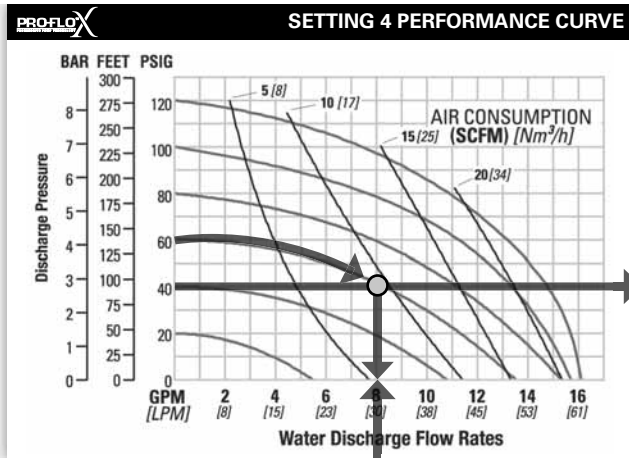

Figure 1
FIGURE 1 The air valve directs pressurized air to the back side of diaphragm A. The compressed air is applied directly to the liquid column separated by elastomeric diaphragms. The diaphragm acts as a separation membrane between the compressed air and liquid, balancing the load and removing mechanical stress from the diaphragm. The compressed air moves the diaphragm away from the center of the pump. The opposite diaphragm is pulled in by the shaft connected to the pressurized diaphragm. Diaphragm B is on its suction stroke; air behind the diaphragm has been forced out to atmosphere through the exhaust port of the pump. The movement of diaphragm B toward the center of the pump creates a vacuum within chamber B. Atmospheric pressure forces fluid into the inlet manifold forcing the inlet valve ball off its seat. Liquid is free to move past the inlet valve ball and fill the liquid chamber (see shaded area).
Step 1: Identifying performance at setting 4. Locate the curve that represents the flow rate of the pump with 4.1 bar (60 psig) air inlet pressure. Mark the point where this curve crosses the horizontal line representing 2.8 bar (40 psig) discharge pressure. (Figure 1). After locating your performance point on the flow curve, draw a vertical line downward until reaching the bottom scale on the chart. Identify the flow rate (in this case, 8.2 gpm). Observe location of performance point relative to air consumption curves and approximate air consumption value (in this case, 9.8 scfm).